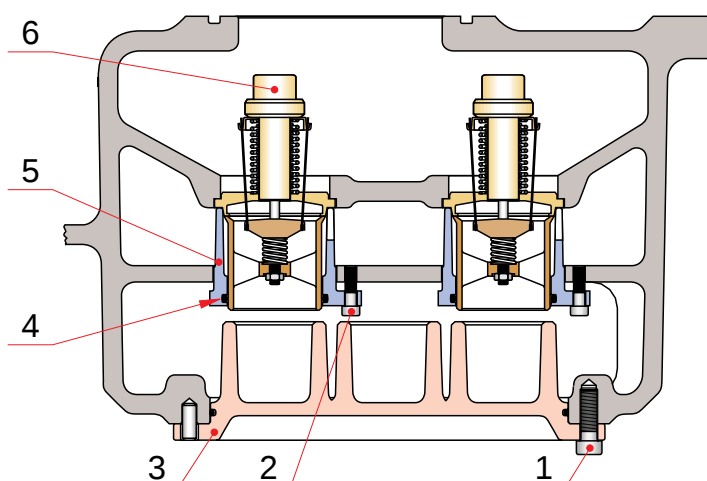

Fig 19-7
The power creating medium utilizes the expansion of the element contents (2), Fig 19-7, which remains in a semi-solid form and is highly sensitive to temperature changes. Most of the expansion takes place during the melting period of approximately two minutes over a temperature change of approximately 8.5°C.
- 2 Remove the cover (3)** by opening the screws (1), see Fig 19-7.
- 3 Open the screws (2)** and remove thermostat elements (6) with element holders (5). Use extractor tools 800122 and 800029 for element holder if necessary.